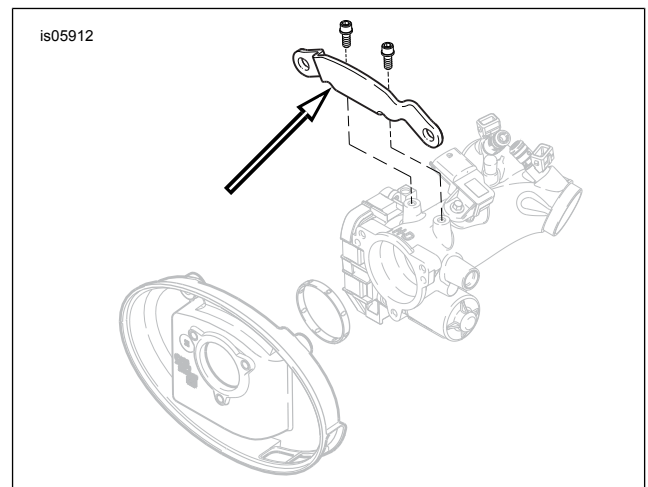

Figure 1. Remove Induction Module Support Bracket
4. See Figure 1. Remove and discard the induction module support bracket.